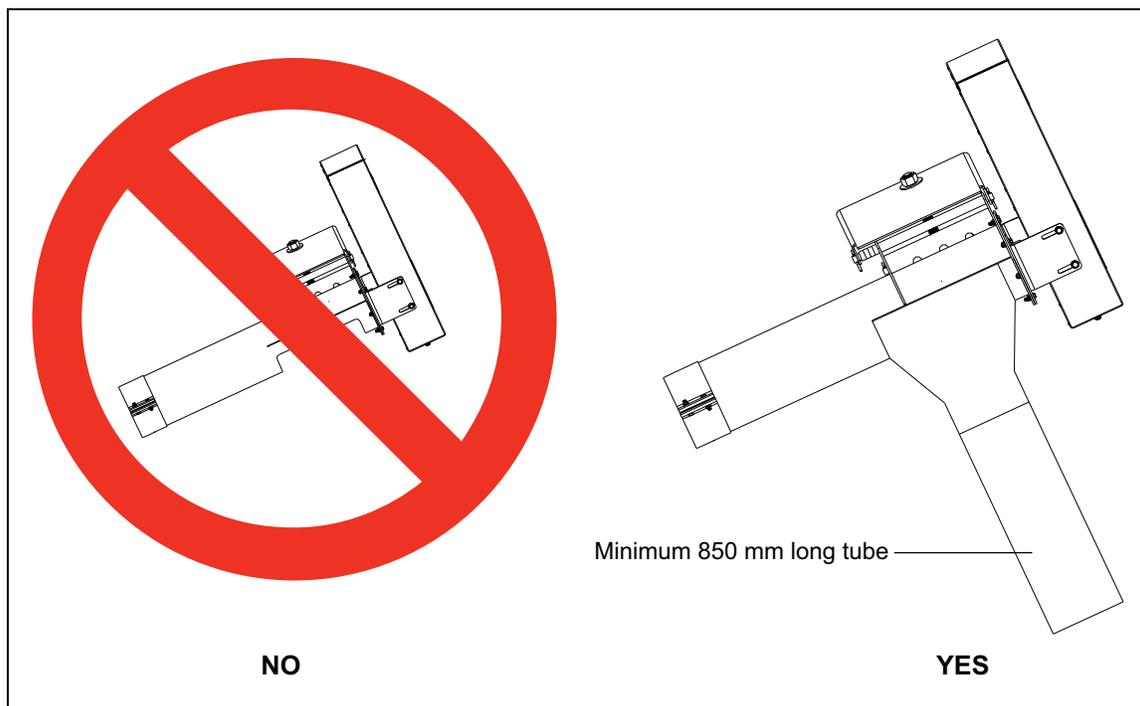

Figure 1D
2. End and intermediate outlet guarding. (See Figure 1D.)